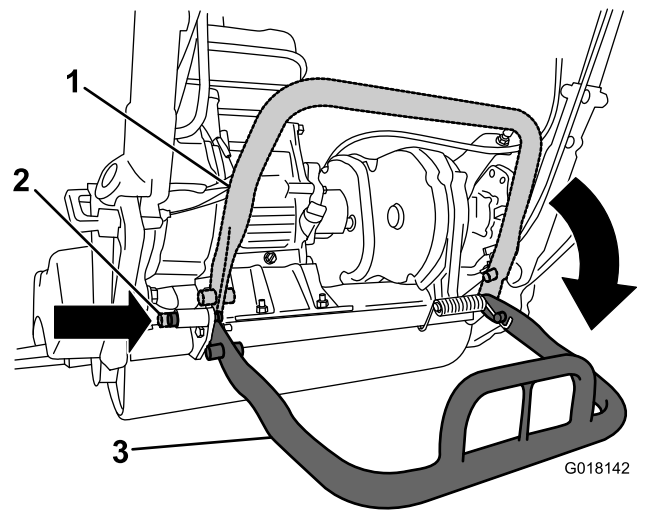

Figure 21
- To prevent the unit from tipping backwards when removing the reel, lower the kickstand and push in the locking pin to lock it in the service position (Figure 21).